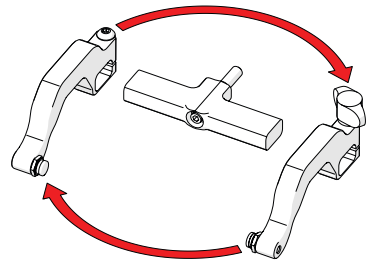

Fig. 37 - Reverse position around yoke
4. Position the removed arms to the opposite sides of the yoke (*Fig. 37*).